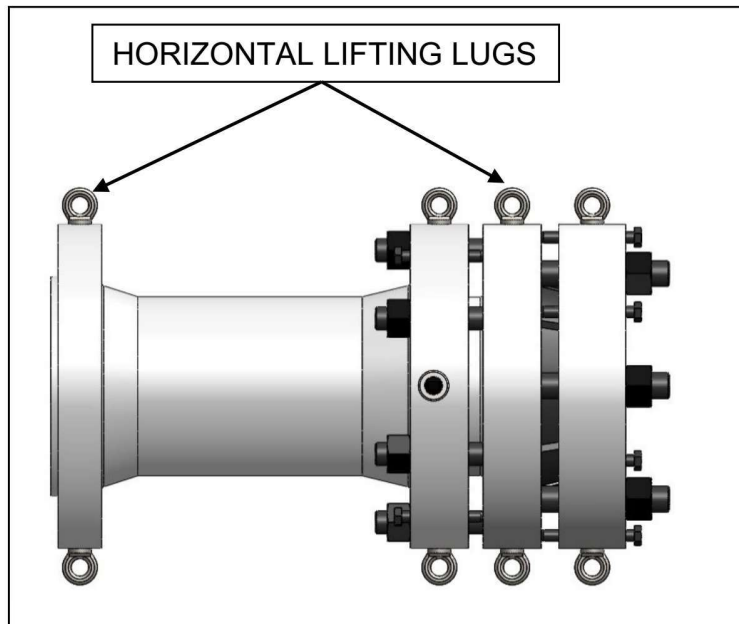

Figure 3
- The maximum distance that the pipe can be inserted in the fitting is shown as "M". To determine distance "M", measure the distance from the outer surface of the grip flange to the stop on the inside of the fitting shown in Figure 3 as "N". Subtract 3/4" from distance "N".
Horizontal lifting can be achieved by attaching the appropriate lifting devices to the lifting lugs located at the base of the seal flange as shown in Figure 3. Additional lifting devices can be used for stability. Any additional equipment attached to the fitting such as tensioners may change the center of gravity, and cause the fitting not to balance evenly. A different combination of lifting lugs may be used.